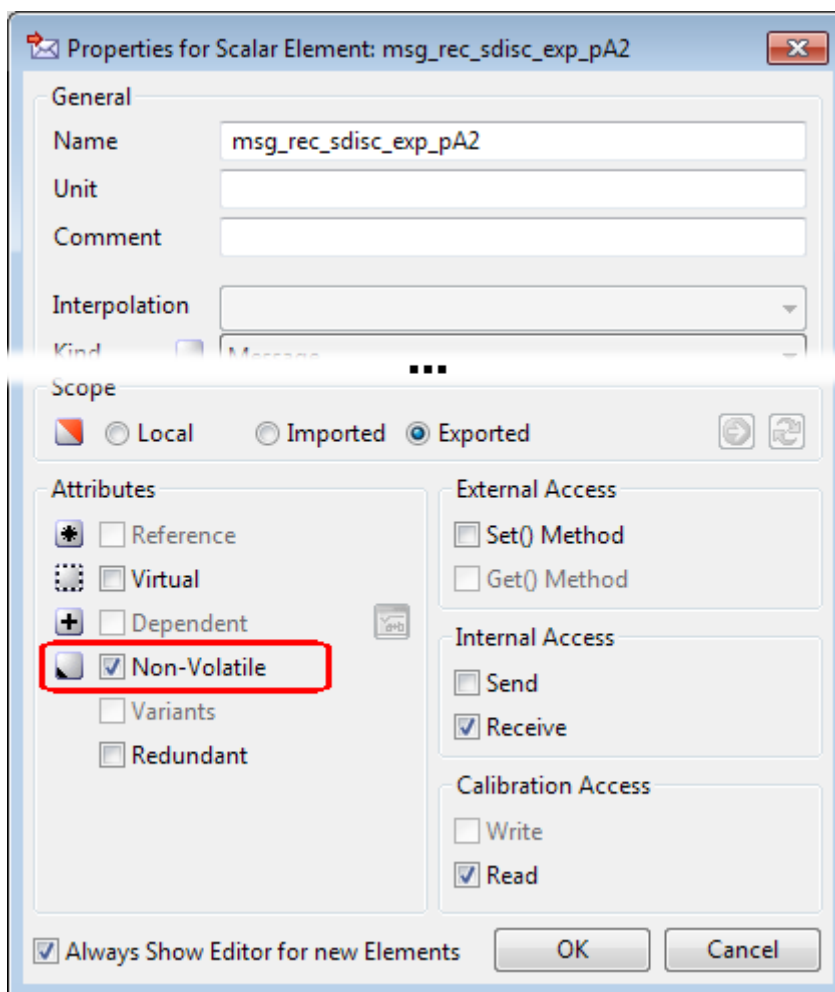

Figure 10.1: Assigning the Non-Volatile attribute to an element
- In the "Attributes" area, activate the **Non-Volatile** option (see Figure 10.1 on page 81).